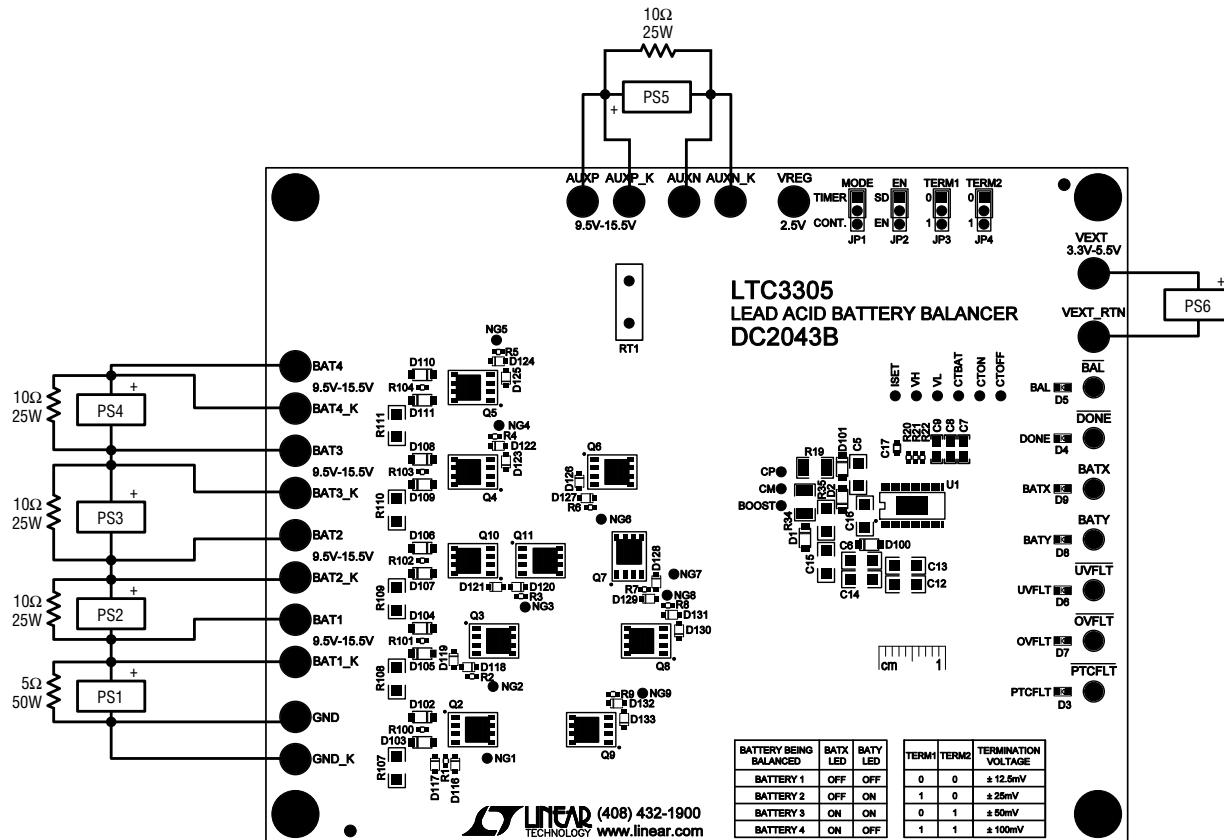

Figure 5. Proper Measurement Equipment Set-Up
Using short twisted pair leads for any power connections, with all loads and power supplies off, refer to Figure 5 for the proper measurement and equipment setup.
2. Connect power supplies, load resistors and meters as shown in Figure 5. Turn on PS1 and slowly increase voltage to 2.0V while monitoring the input current. If the current remains less than 200mA, increase PS1 to 12.0V. Repeat for PS2–PS4.